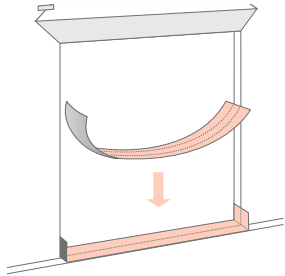

fig. 6
- Remove the release paper, cover the horizontal sill by aligning flashing tape inside the edge of the sill and adhere into the rough opening along the sill and up the jambs a minimum of 6". (**fig. 6 & 6a**)